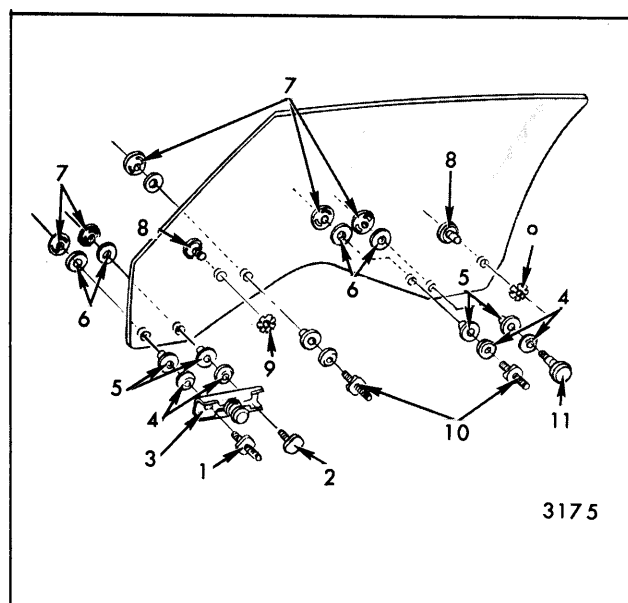
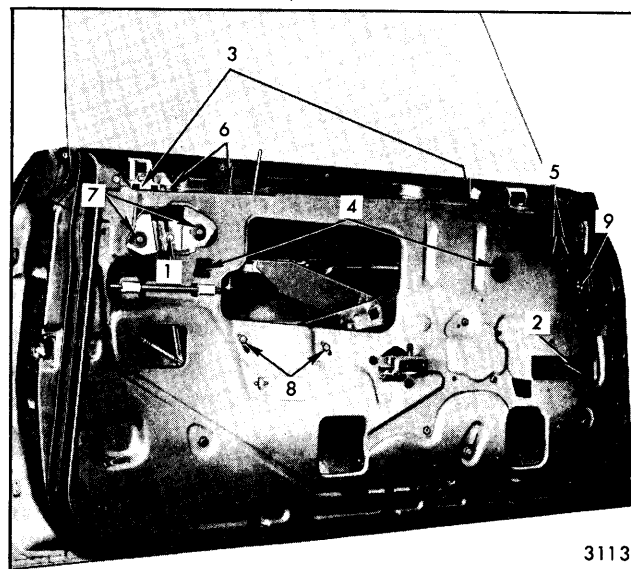

Fig. 6-82—Front Door Window Assembly "A-37, 67 and 87" Styles and "G-57" Styles
Fig. 6-83—Front Door Window Removal and Adjustment - "A-37, 67 and 87" Styles and "G-57" Styles
Figure 6-82 is an exploded view of the window assembly and identifies the various components and their assembly sequence.
2. Loosen window rear up travel stop bolt ("1", Figure 6-83) and remove stop from rear guide.
3. Using a 1/4" hex-head wrench, remove front up-stop from window front roller cam ("2", Figure 6-83).
4. Remove window stabilizer strip assembly bolts ("3", Figure 6-83) and remove stabilizer strips.
5. Remove window lower sash channel cam to glass attaching stud nuts ("4", Figure 6-83). Tilt top edge of glass inboard and disengage window (with studs intact) from lower sash channel cam.
1. In and out adjustment of the glass is controlled by the in and out adjustment available at the top of the front and rear guides ("5" and "6", Figure 6-83) and the in and out position of the glass stabilizer strip assemblies ("3").
2. Fore and aft adjustment of the window assembly is controlled by the position of the rear guide. The upper guide bracket to guide attaching locations ("7", Figure 6-83) are slotted to permit fore and aft adjustment of the guide. Because of the free floating roller in the window front sash channel cam (Figure 6-82), the front guide does not have to be adjusted during fore or aft window alignment.
3. Ease of window operation and window stability depend to a great extent on the adjustment of the window stabilizer strip assemblies at the beltline ("3", Figure 6-83). The stabilizing strips ("3") should contact the glass throughout the full cycle of the window. Due to slight variations in glass contour, however, in some
4. A window that is rotated (cocked) in the window opening may be the result of an improperly adjusted inner panel cam ("8", Figure 6-83) or poorly adjusted up-travel stops ("1" or "9", Figure 6-83).
Correct a poorly adjusted inner panel cam by loosening cam attaching bolts ("8", Figure 6-83) and adjusting front end of cam up or down as required. Adjustment of cam repositions front edge of glass up or down in relation to rear edge of glass.
5. The up-travel of the window is determined by the adjustment of the front and rear window up-travel stops ("1" and "9", Figure 6-83). To adjust window up-travel, loosen front and rear up-stops and operate window to desired position to establish proper glass to side roof rail weatherstrip contact (Figure 6-84).